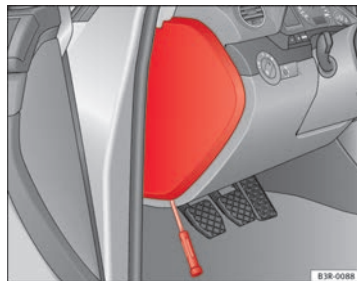

Fig. 202 Left side of dash panel: Fuse box cover
- Remove the fuse cover using a screwdriver ⇒ Fig. 202.